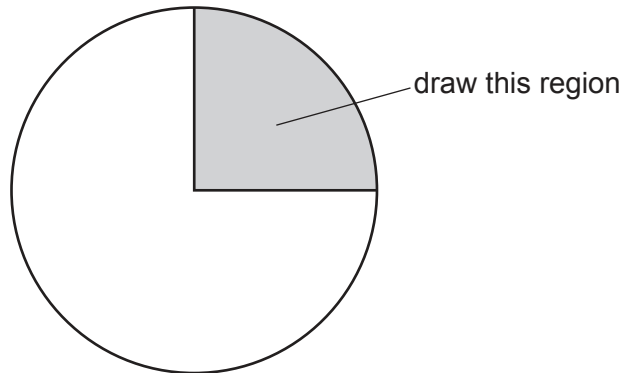

Fig. 2.1
- (a) (i)** Draw a large plan diagram of the region of the root on **K1** indicated by the shaded region in Fig. 2.1. Use a sharp pencil.